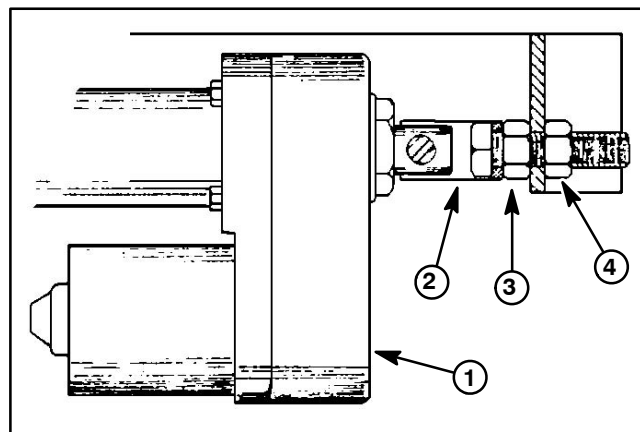

Figure 62
1. Loosen end nut that secures adjustable clevis to boom frame (Fig. 62). Position jam nut as close as possible to adjustable clevis. Tighten end nut to secure clevis.